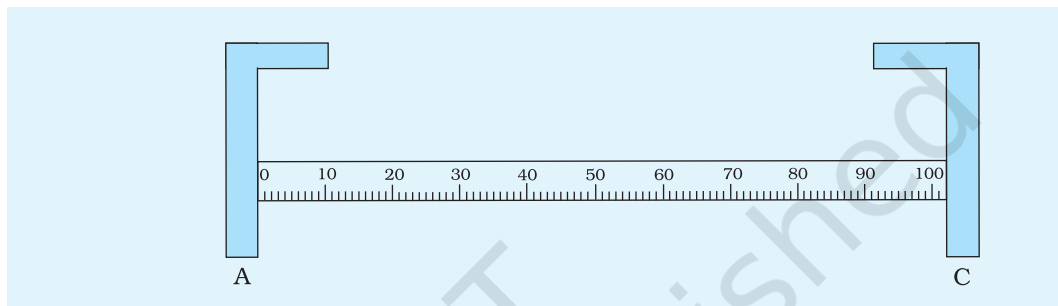

Fig. E 2.3 Defective scale of a metre bridge
5. The scale attached along the wire may not indicate the exact length as shown in Fig. E 2.3. How would you minimise the error?